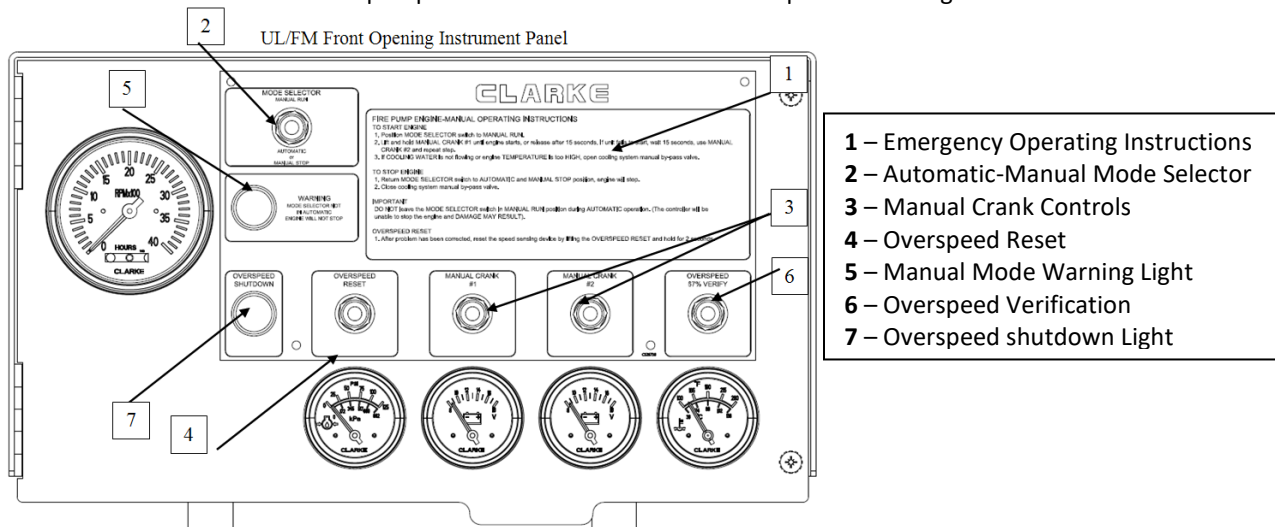

Figure 1
- Hold the OVERSPEED VERIFICATION switch in the “up” position located on the door of the Clarke panel (see Figure 1). This will provide the main pump controller with an overspeed signal and engine shutdown at 67% of the overspeed shutdown threshold RPM. The overspeed shutdown threshold is 120% of engine rated speed.
- **CAUTION**-after verification of overspeed, lift the OVERSPEED RESET switch in the “up” position for 5 seconds and reset the main pump controller to re-instate normal operation of the engine and speed switch (see Figure 1).
- Upon releasing the OVERSPEED RESET switch, the OVERSPEED INDICATION LIGHT on the door of the instrument panel will blink several times and then turn off. This is normal and indicates the speed switch is functioning normally. (see Figure 1)